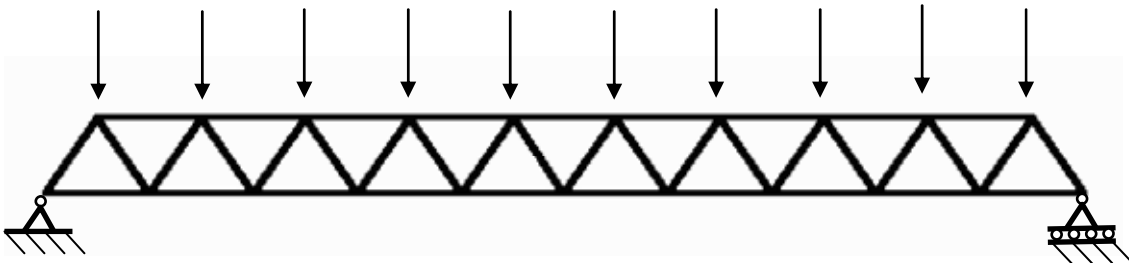

Figure 1
- b) Consider the simply supported Warren truss shown in Figure 1. There are 10 panels, each 2.1 m in length, to give a total span of 21 m. The truss uses T-sections for the chords and double angles for the diagonals. The truss is designed to resist a downwards UDL of 19 kN/m, which may be simplified as a set of point loads acting on the panel points of the truss. The engineer has not yet designed the connections but assumes that 15 % of the gross cross sectional area may be lost due to the presence of bolt holes at the connections.